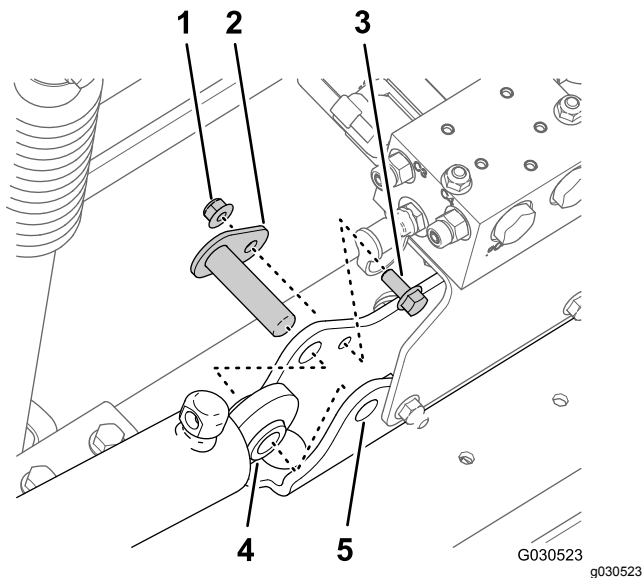

Figure 41
- Remove the flange locknut (5/16 inch) and flange-head bolt (5/16 x 3/4 inch) that secures the pivot pin to the cylinder mount (Figure 41).
- Remove the pivot pin and the lift cylinder from the machine (Figure 41).